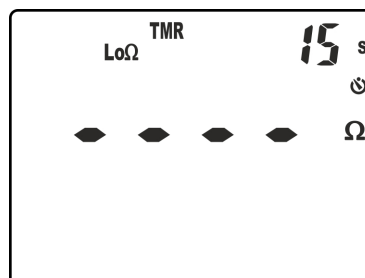

Fig. 30: Setting the measuring time in TMR mode
5. Press keys **▼/☼** or **▲/ZERO** to select the measuring time (timer) in range: **1s ÷ 30s**. Please note the value in the top part of the display on the right (see Fig. 30).